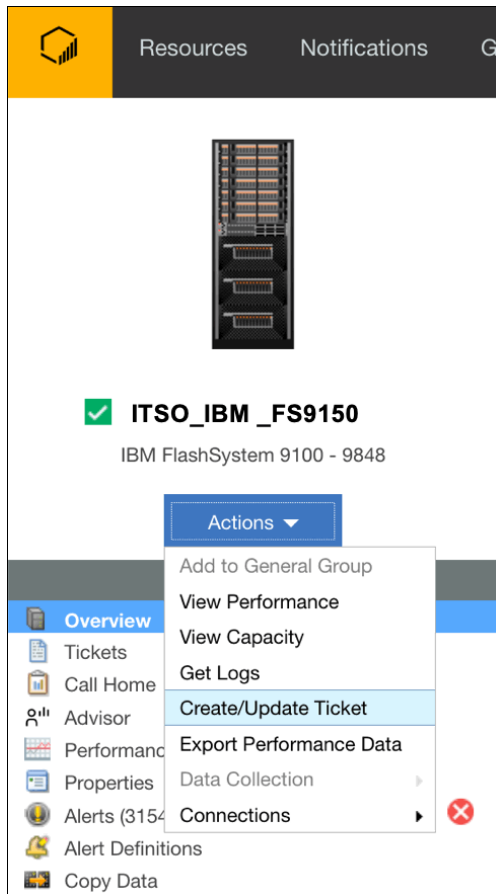

Figure 11-12 IBM Storage Insights Create/Update Ticket option
1. In the IBM Storage Insights dashboard, choose the system for which you want to create the ticket. Then, select **Actions** → **Create/Update Ticket** (see Figure 11-12).